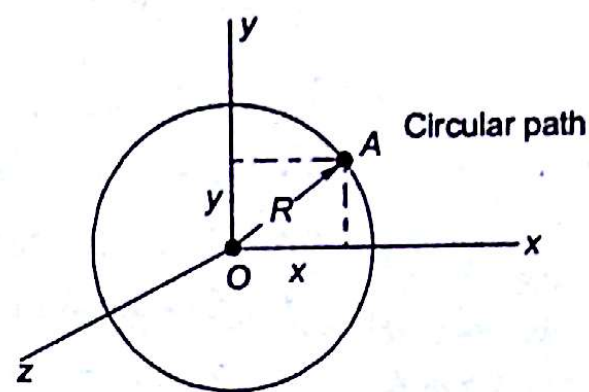

Fig. 1.26
1.1 A particle moves along a circular path of radius R in x - y plane as shown in Fig. 1.26. What is the position vector R of this particle in terms of y -co-ordinate?